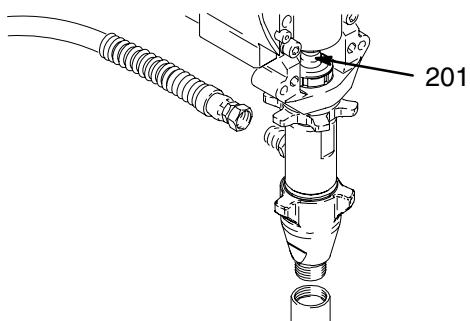

Fig. 12
1. Flush pump. Relieve pressure. Fig. 12. Cycle pump with piston rod (201) in its lowest position.
2. Fig. 12. Remove suction tube and hose.